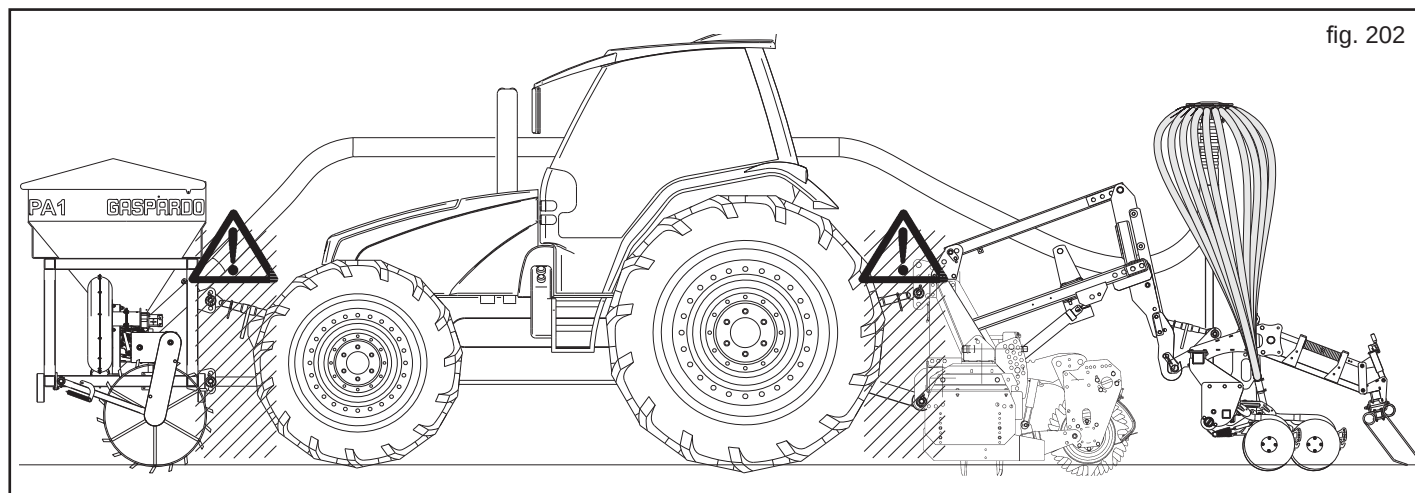

fig. 202
- 5) It is absolutely forbidden to stand between the tractor and linkage for manoeuvring the lifting controls from the outside (Fig. 202).
- 6) It is absolutely forbidden to stand in the space between the tractor and the equipment (Fig. 202) with the engine running. It is possible to work between the tractor and the equipment only after the parking brake has been applied and a suitably sized blocking wedge or stone has been placed under the wheels.